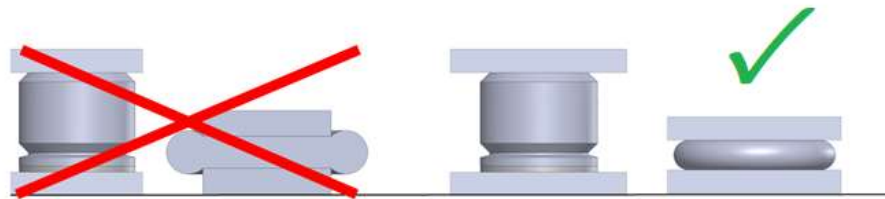

Fig. 6: sufficient dimensioning of counter-pressure plates
4.4 The diameters dG_u , dG_o or dG_1 of the counter-pressure plates must be large enough that the buffer is supported over the entire surface even when the expanded area comes into contact with the plates (fig. 6) (see 4.3).